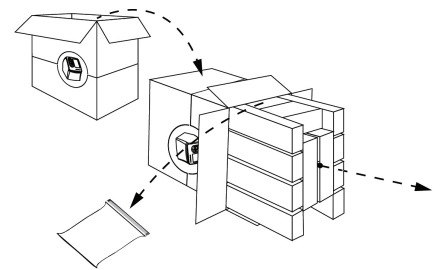

Figure 3
4. Rotate the box on its side (Figure 3).
5. Slowly slide the instrument and surrounding foam out of the box using the brown tube found between the foam panels (Figure 3).
6. Remove the Accessory Bag and set aside (Figure 3).